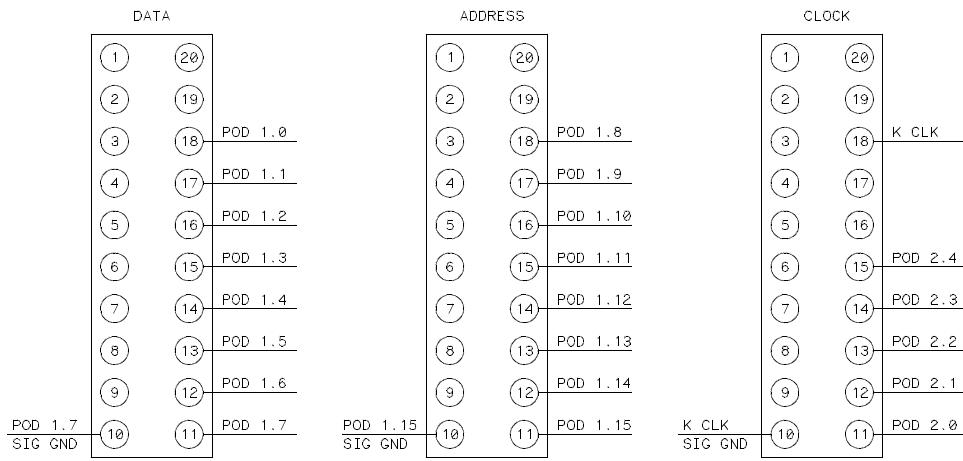

Figure 6-35. Probe Tip Connections
- Connect the HP 1651B pod 1 and pod 2 probe tip assemblies to three DIP clips as shown in figure 6-35.
17. Connect the HP 1651B pod 1 and pod 2 probe tip assemblies to three DIP clips as shown in figure 6-35. The HP 1651B System Configuration menu and the Format menu are the same as in step 1 and step 2.